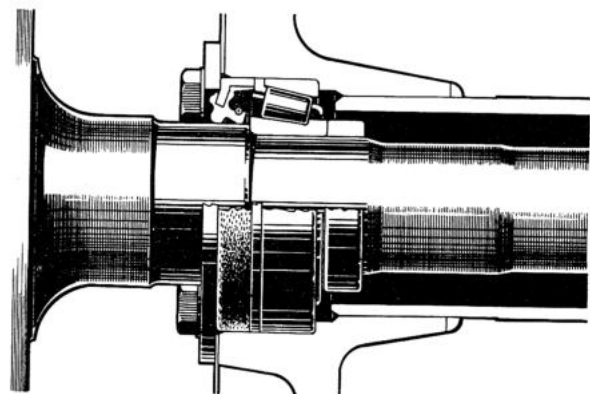

Fig. 4-136. Drive shaft journalling
The drive pinion is carried in taper roller bearings. The axial location of the drive pinion relative to the crown wheel is adjusted by means of shims under the outer race of the rear pinion bearings. Application of the pinion bearings is by means of shims under the front pinion bearing inner ring. The outer end of each drive shaft is journalled in a taper roller bearing. Bearing clearance is not adjustable but is determined by the construction of the bearing, see Fig. 4-136. There are oil seals on both sides of the drive shaft bearings.
5. Fill the space between the seal lips on the new oil with grease. Then place it on the drive shaft. Fit the bearing and lock ring. Turn the bearing correctly, see Fig. 4-136.